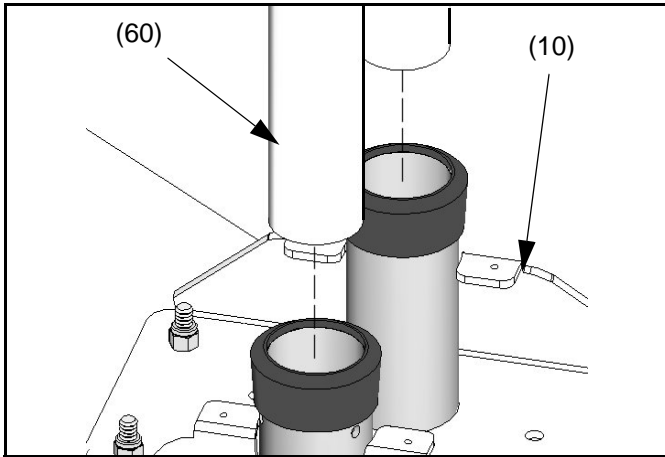

Figure 5: Install Tube(s)
1. Install two Tubes (60) in Base (10) (see figure 5).